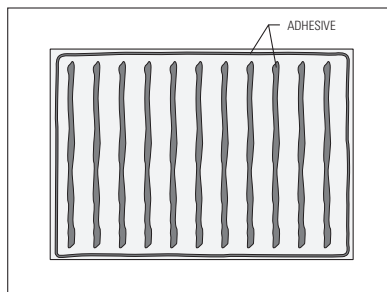

FIG.8
4. Build a seat support from 2"x4"s, that is 19 1/2"h x 12"d. Attach 1/2" plywood to the front of the seat structure, stopping it 1" above the waterguard barrier on the receptor. See Figure 8.